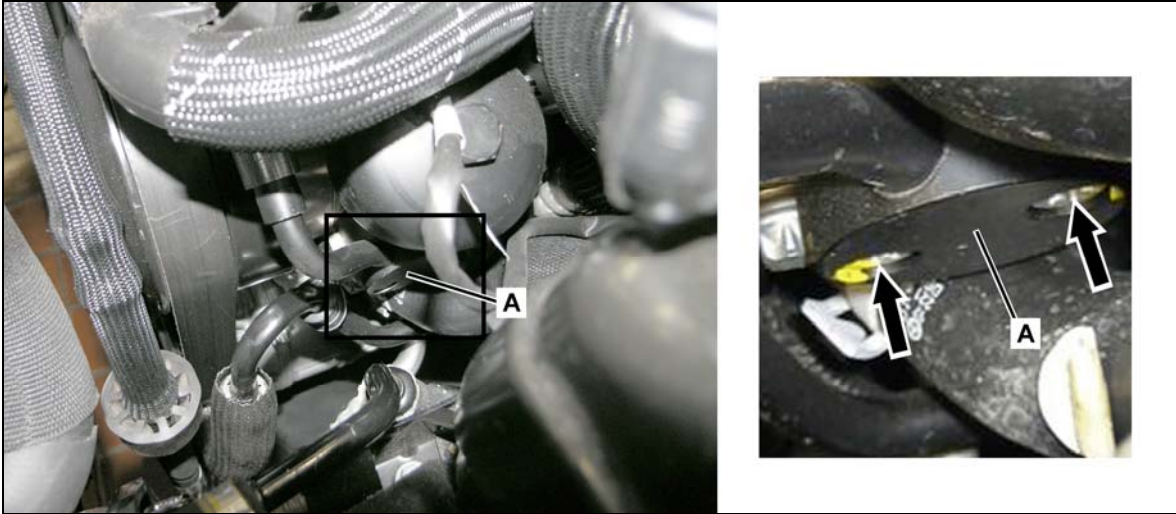

Figure 5
9. Detach ABC high-pressure line (A, Figure 5) from tandem pump and remove from vehicle.